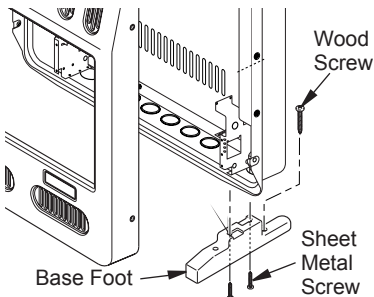

Figure 12 - Installing Base Feet (actual heater may vary from illustration)
2. Align holes in base foot with mounting holes on bottom of cabinet (see Figure 12).
4. Reposition heater with base feet over holes. Secure base to floor with wood screws. See Figure 12.